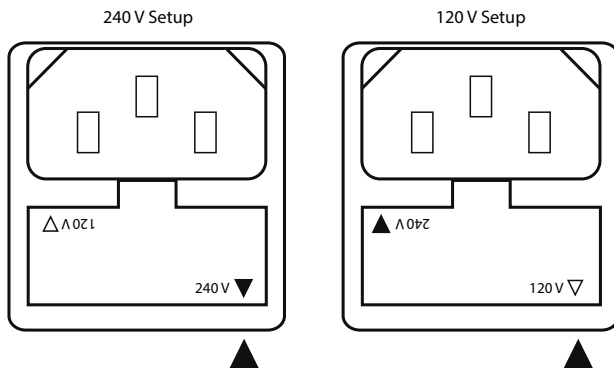
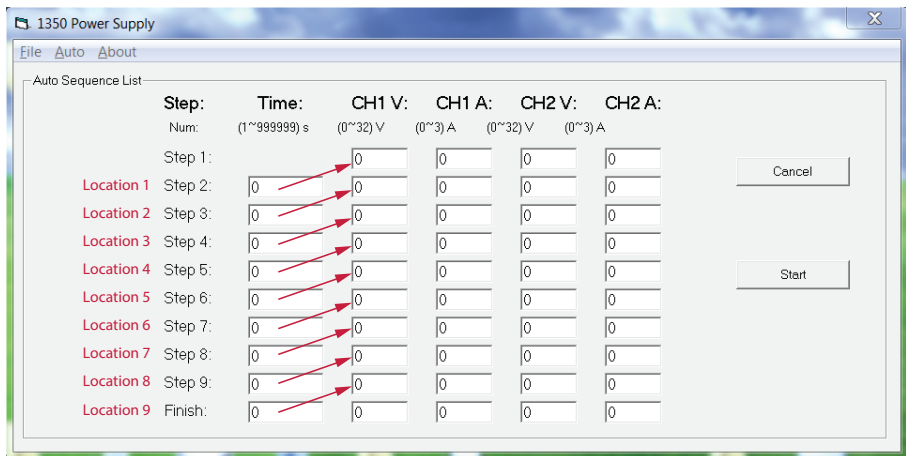

Figure 4. Fuse Selector
Figure 5. List Mode
The input power voltage indicator is a black arrow ▲ on the rear panel near the AC input connector. See Figure 3, number 30. The fuse holder (Figure 3, number 31) has a both a smaller white arrow ▽ (120 V) and a smaller black arrow (240 V) ▼ on it. The fuse holder should be rotated so that the fuse holder arrow of the appropriate voltage is pointing to the larger black input power voltage indicator arrow. See Figure 4.
6. The output is set to “Off” as in Figure 4. Click the On/Off to start output as in Figure 5. Clicking it again will return to “Off” position.